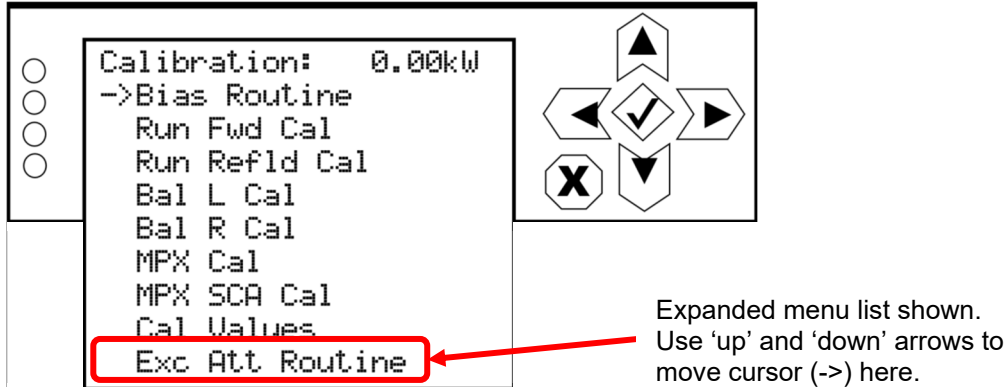

Figure 1: Front Panel UI – Calibration Menu
- (a) From the front panel UI, select **System Settings -> Factory Settings -> Calibration** from the Main Menu. See Figure 1.